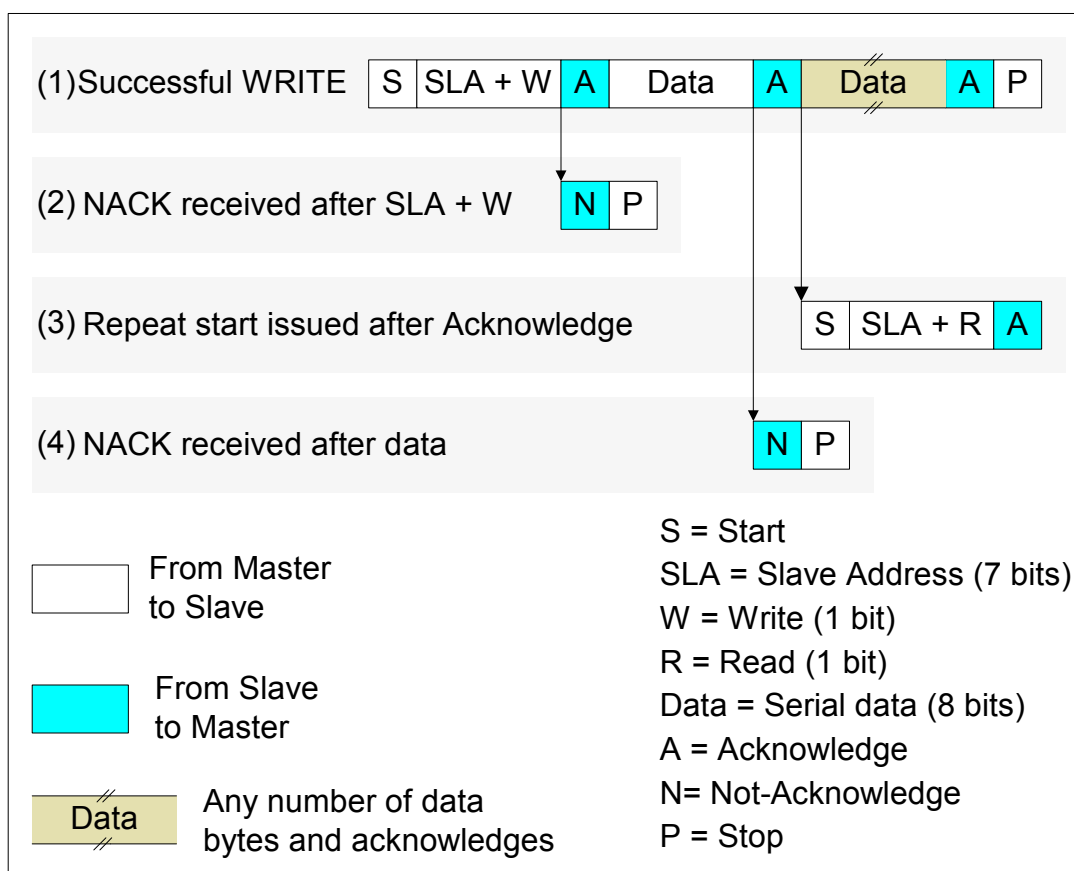

Figure 3. Typical WRITE Transfer Scenarios
Example (1) in Figure 3 shows a successful transfer when the device is operating as a Master Transmitter.